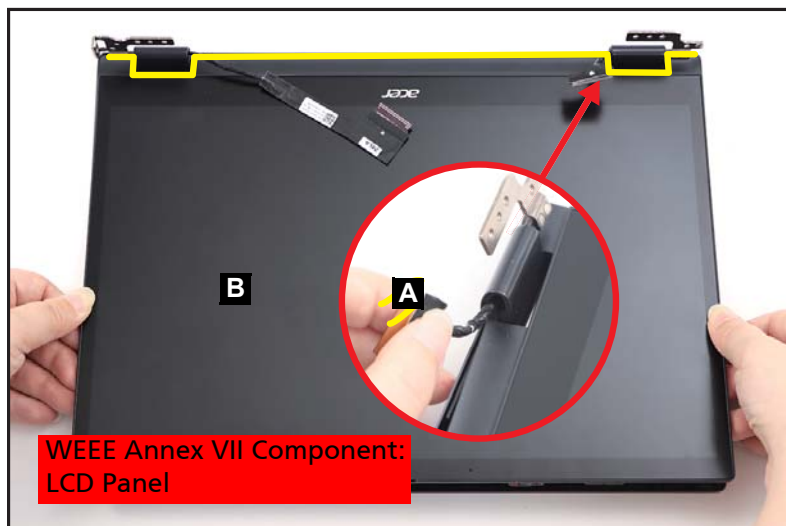

Figure 1-50. LCD Panel Removal
3. Continue prying the remaining latches on the bottom side of the LCD panel (Figure 1-50).
4. Release the eDP cable (A) from the LCD hinge cap. Then remove the LCD panel (B) from the LCD cover (Figure 1-50).